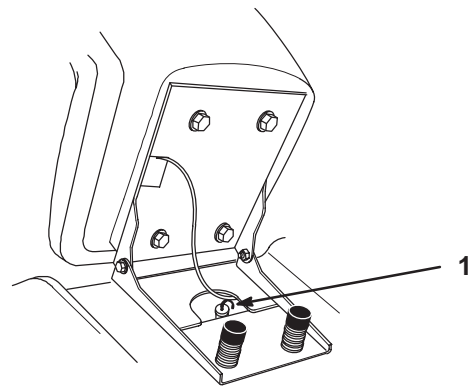

Figure 44
4. Clean around the transmission dipstick (Fig. 44) so dirt cannot fall into the filler hole and damage the transaxle.
5. Pull out the transmission dipstick and wipe the metal end clean (Fig. 44).
6. Slowly pour the specified refill capacity of oil into the filler tube (Fig. 44).